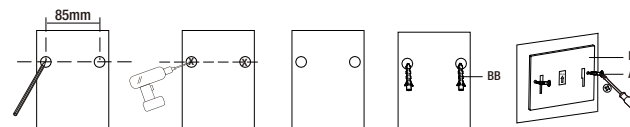

Figure 1
1. Find the location where you want to mount the light. (Figure 1)